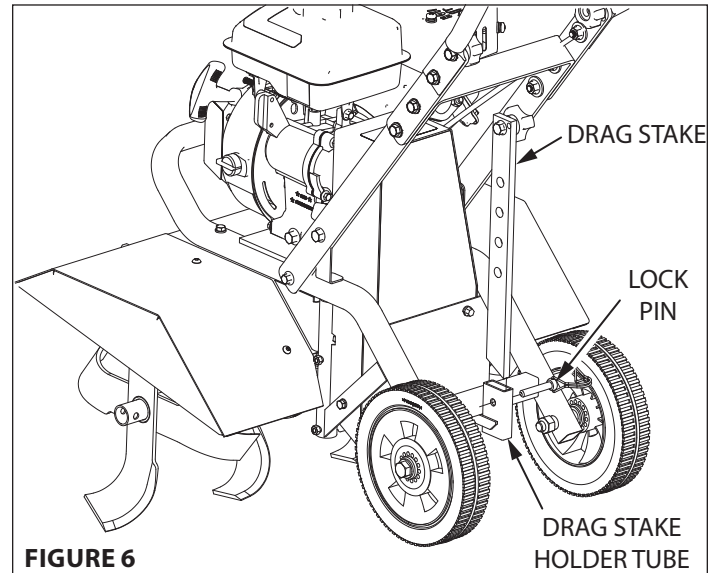

FIGURE 6
7. Install the drag stake assembly from the top down through the drag stake holder tube on the tiller frame between the wheels. Lock the drag stake in place using the lock pin that is already affixed to the drag stake holder tube. **SEE FIGURE 6**